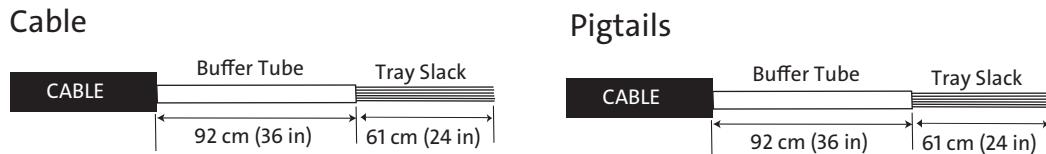

Figure 3
- Step 1:** Remove cable sheath as illustrated in Figure 3. Do not expose the bare fiber until you are ready to splice.